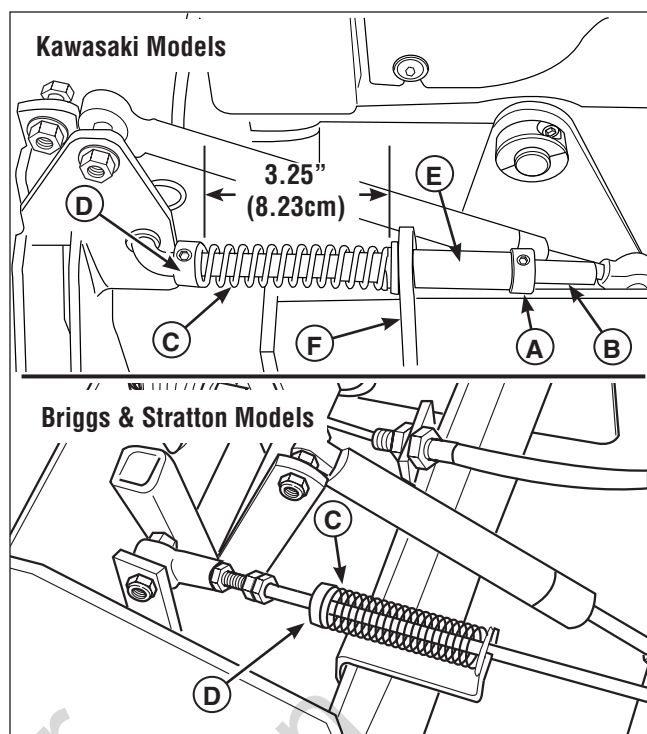

Figure 35. Neutral Return Spring Adjustment
2. Measure the length of the neutral return spring (C, **Figure 35**) it should be set at 3.25" (8.23 cm). If the spring does not measure 3.25" (8.23 cm) loosen the front set collar (D) and the rear set collar (A), then move the front set collar forward or back on the neutral return rod (B) until the spring length equals 3.25" (8.23 cm). Retighten the front set collar.
3. Make sure that the neutral return bushing (E) is seated correctly in the spring stop plate (F).